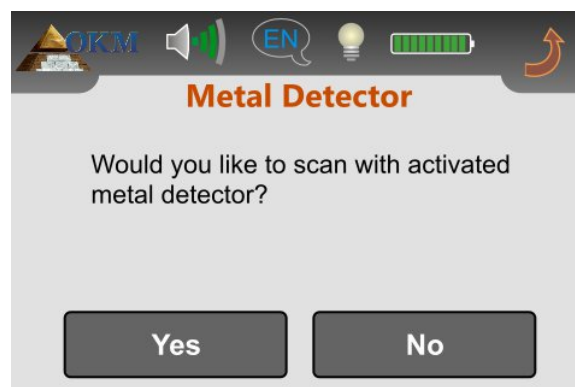

Figure 9.6: Activate metal detector in operating mode "3D Scan"?
Now go to point ① of the field and select the "3D Scan" operating mode from the main menu. You will see the screen from figure 9.6 on your display. There you can choose whether to use the metal detector during the measurement or not.